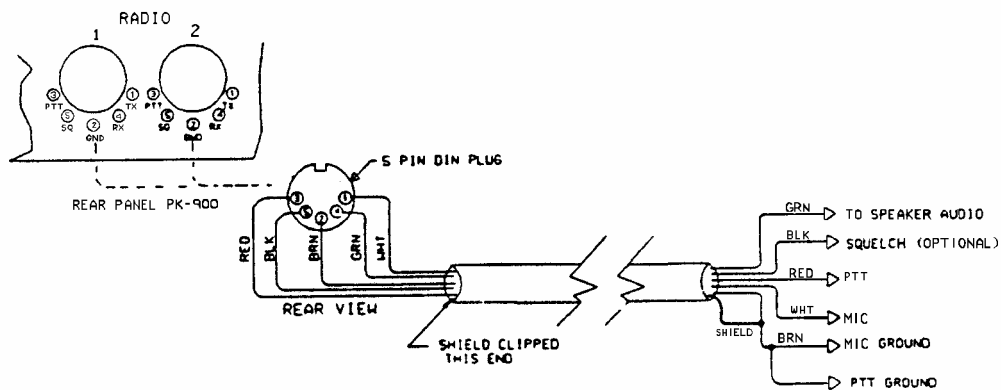

Figure 3-5 Radio-to-PK-900 Connections
3. Verify that your PK-900 and FM radio are connected as shown in Figure 3-5 below.
1. Connect your PK-900 and SSB radio as shown in Figure 3-5.